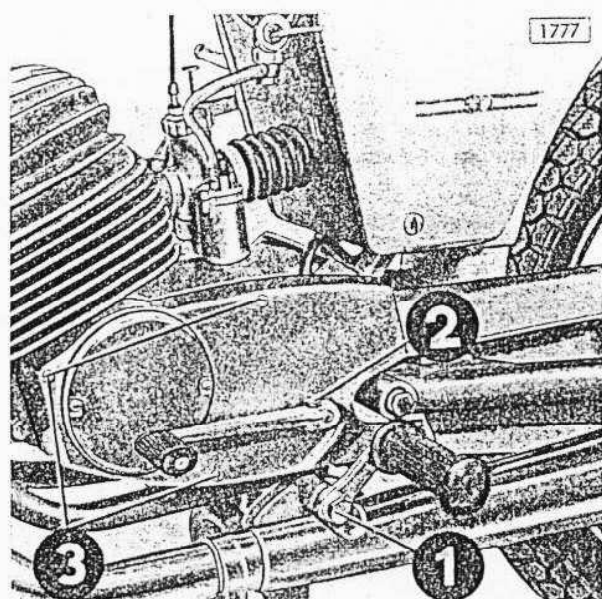
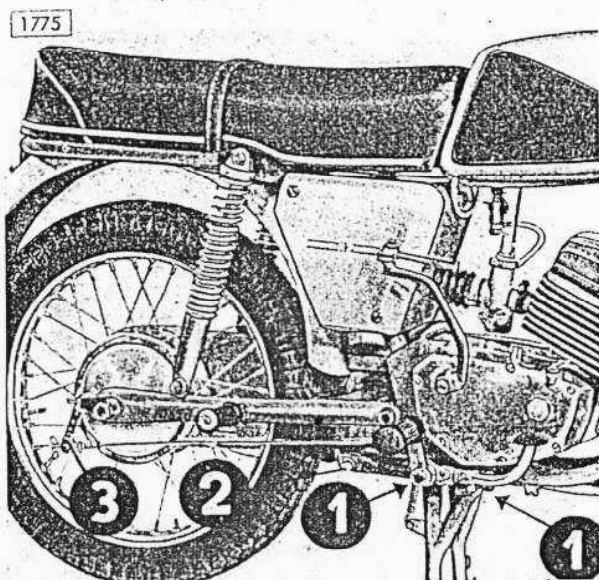

Fig. 1: Engine l. h. s. view
Fig. 2: Engine r. h. s. view
1. Undo both nuts from the exhaust pipe at the cylinder then remove both fixing screws of the exhaust (fig. 2/1) and the screw of the support (fig. 2/2), thereafter remove the complete exhaust unit.
2. Undo foot rest fixing bolts l. h. s. (fig. 1/1) and r. h. s. and turn foot rests downwards i.e. they need not be removed completely. Disconnect foot brake linkage at the rear brake lever (fig. 2/3).
3. Undo gear shift lever-fixing bolt (fig. 1/2) and cover fixing screws (3 screws, fig. 1/3), and remove both the gear shift lever and cover.